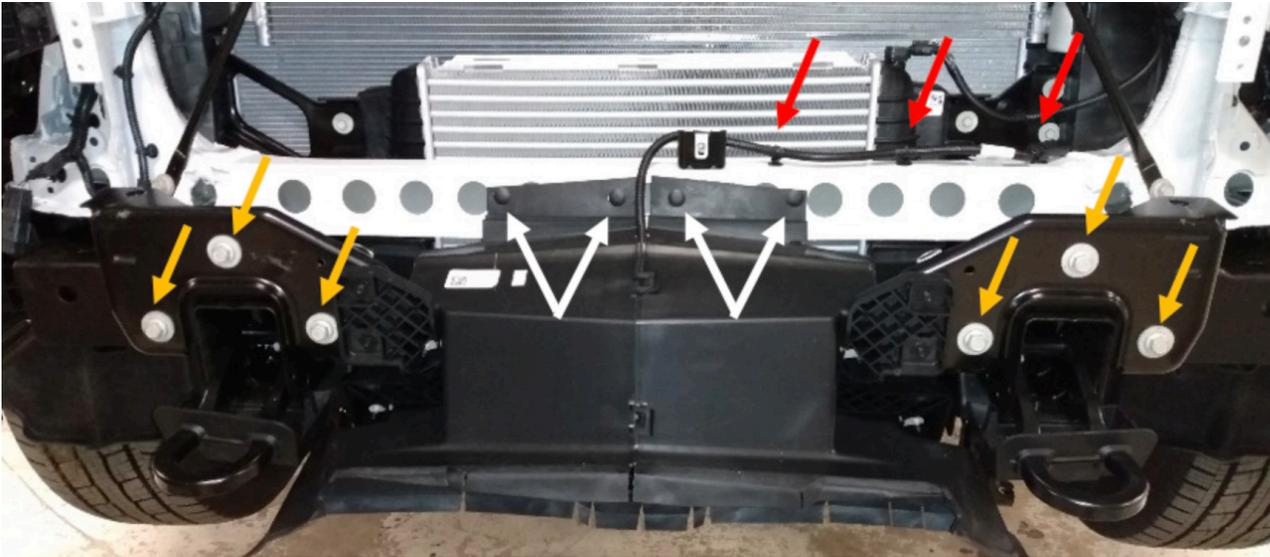

Figure 19
20. Using a panel pry tool, remove the four (4) push pins from the lower louver shroud and the three (3) clips attaching the harness to the vehicle. Then, using a 15mm socket wrench remove the six (6) bolts in the frame horns to release the louvers from the frame. Figure 19